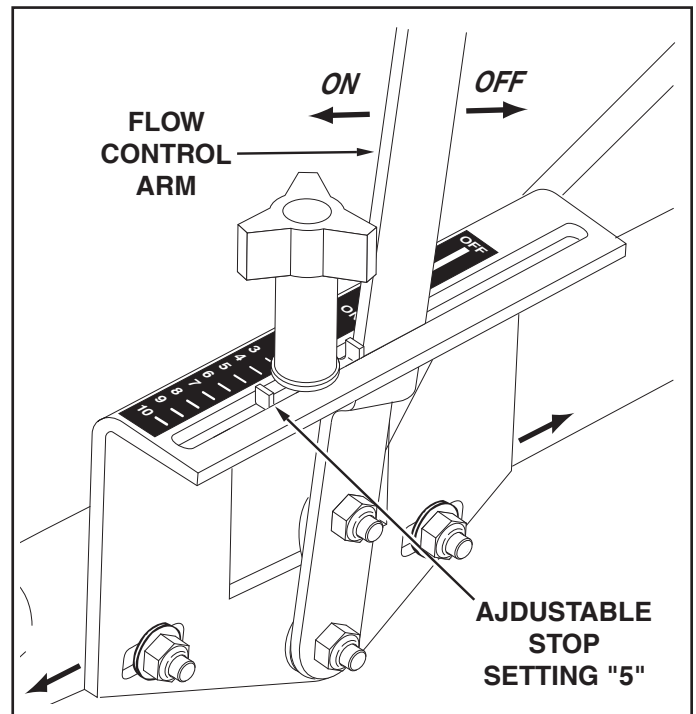

FIGURE 15
28. Position the flow control mounting bracket (figure 15).
(Refer to figure 15 on page 7.)